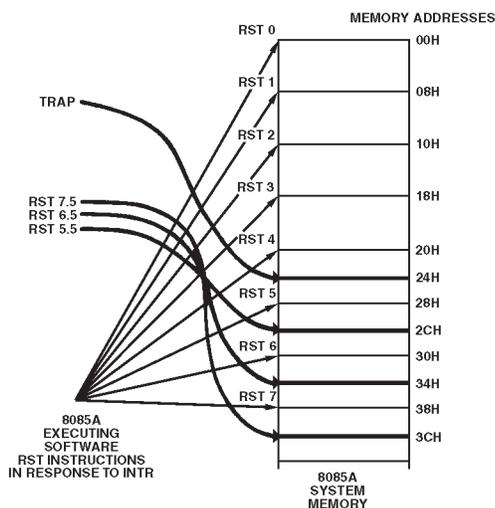
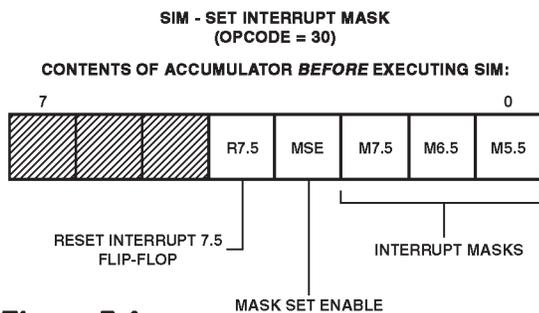
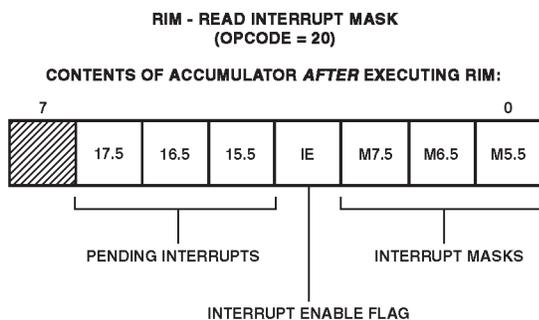

Figure 7-3 8085A HARDWARE AND SOFTWARE RST BRANCH LOCATIONS
Figure 7-4 INTERRUPT MASKS SET USING SIM INSTRUCTION
Figure 7-5 RIM — READ INTERRUPT MASK
The five hardware interrupt inputs provided in the 8085A are of three types. INTR is maskable (can be enabled or disabled by EI or DI software instructions), and causes the CPU to fetch in an RST instruction, externally placed on the data bus, which vectors a branch to any one of eight fixed memory locations (Restart addresses). (See Figure 7-3). INTR can also be controlled by the 8259 programmable interrupt controller, which generates CALL instructions instead of RSTs, and can thus vector operation of the CPU to a preprogrammed subroutine located anywhere in your systems's memory map. The RST 5.5, RST 6.5 and RST 7.5 hardware interrupts are different in function in that they are maskable through the use of the SIM instruction, which enables or disables these interrupts by clearing or setting corresponding mask flags based on data in the accumulator. (See Figure 7-4.) You may read the status of the interrupt mask previously set by performing a RIM instruction. Its execution loads into the accumulator the following information. (See Figure 7-5).
- The 8085A executes a SIM instruction, with accumulator bit 4 previously set to 1. (See Figure 7-4).